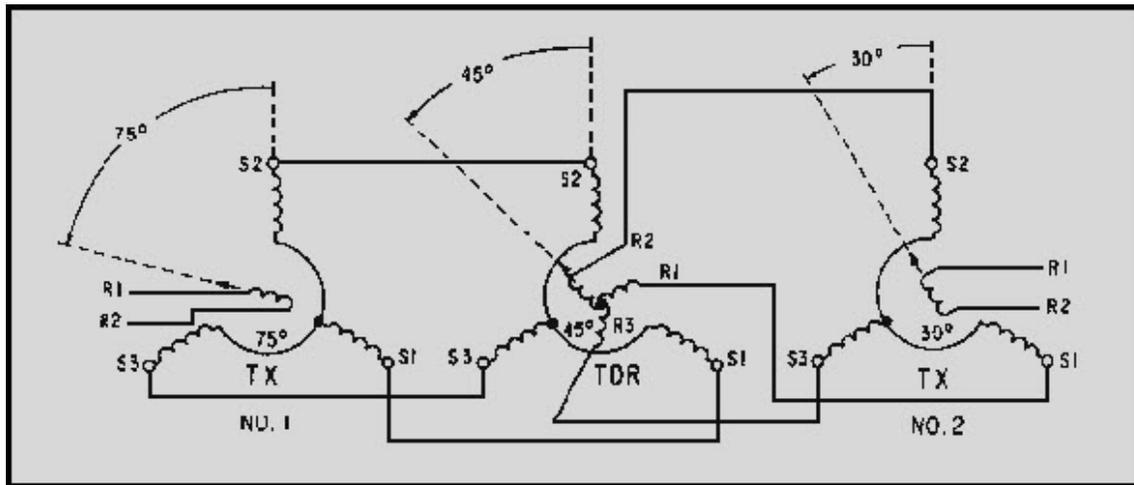

Figure 1-22 TX-TDR-TX system operation (subtraction)
As we previously explained, the differential receiver differs chiefly from the differential transmitter in its application. The TDX in each of the previous examples combined its own input with the signal from a synchro transmitter (TX) and transmitted the sum or difference to a synchro receiver (TR). The synchro receiver then provided the system's mechanical output. When the differential receiver (TDR) is used, the TDR itself provides the system's mechanical output. This output is usually the sum or difference of the electrical signals received from two synchro transmitters. Figure 1-22 shows a system consisting of two TXs (No. 1 and No. 2) and a TDR connected for subtraction.